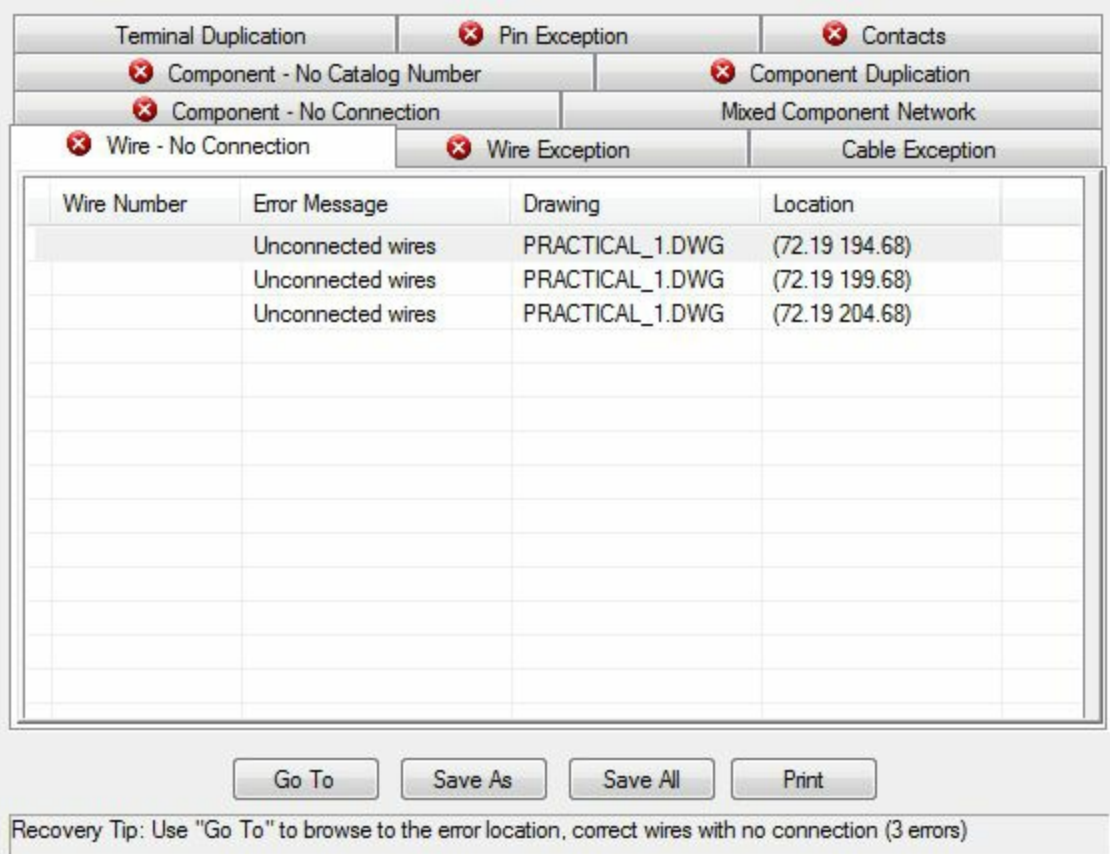

Figure-17. Errors in the drawing
- Click on the **Active Drawing** radio button to display the problems in the current drawing. Click on the tabs in the expanded dialog box which are marked with a cross, the errors will be displayed; refer to Figure-17.